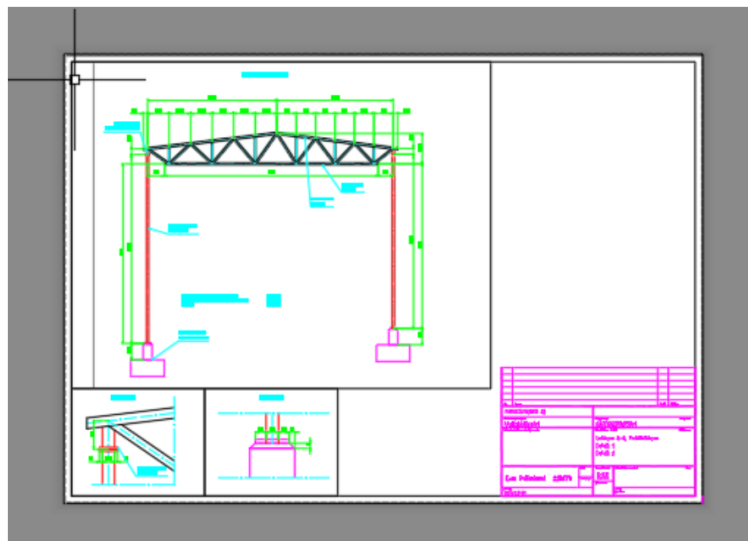

Figure 20. Snapshot of almost ready paper space
- b. Place infotable block as shown in Figure 20. Select the infotable layer.